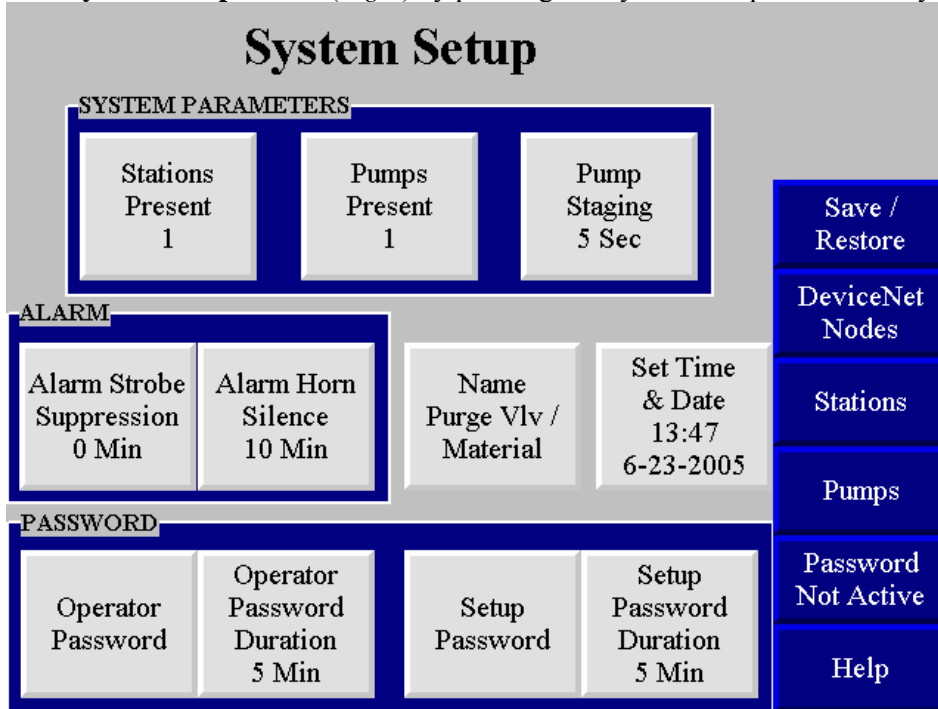

Fig 6
- Go to the **System Setup** Screen (*Fig 6*) by pressing the System Setup button on any screen.
20. Go to the **System Setup** Screen (*Fig 6*) by pressing the System Setup button.